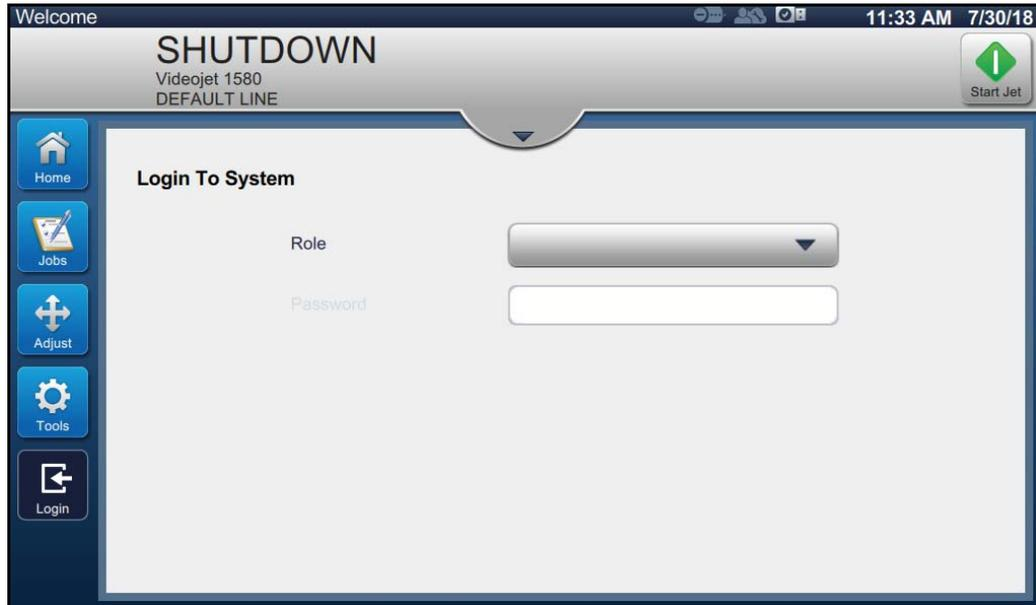

Figure 1-2: Login Screen
2. Touch the *Login* button and set the role to Admin user level. Enter the required password (default = 3333) to login to the system (Figure 1-2).